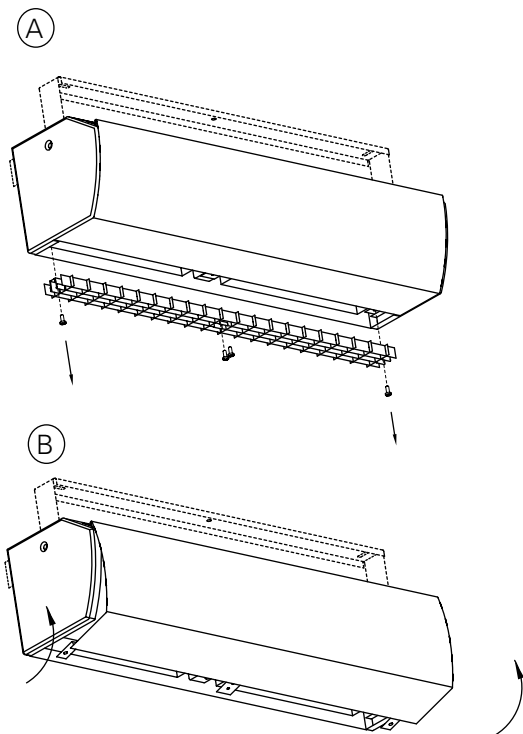

Fig. 3: To open
2. Loosen the screws on the intake grille and remove grille. See A, fig. 3.
3. Lift the front. See B, fig. 3.